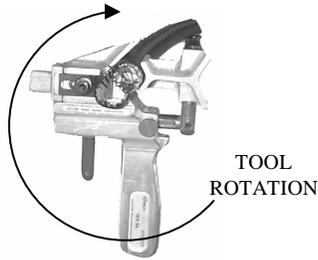

Fig. 8
Step 3. (Fig. 8) Begin jacket stripping by applying a slight downward pressure while rotating the tool around the cable in a clockwise direction. *If the blade slips out of position during jacket removal, do not attempt to restart stripping process. Cut the cable using a curved cable cutter or hacksaw and start over.*